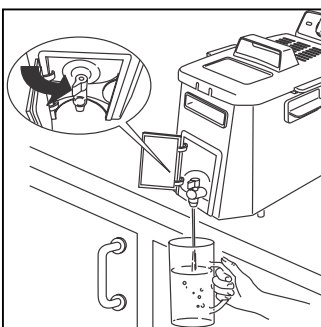

fig. 6
4. Run the liquid into a container (see fig. 6), making sure it doesn't overflow.